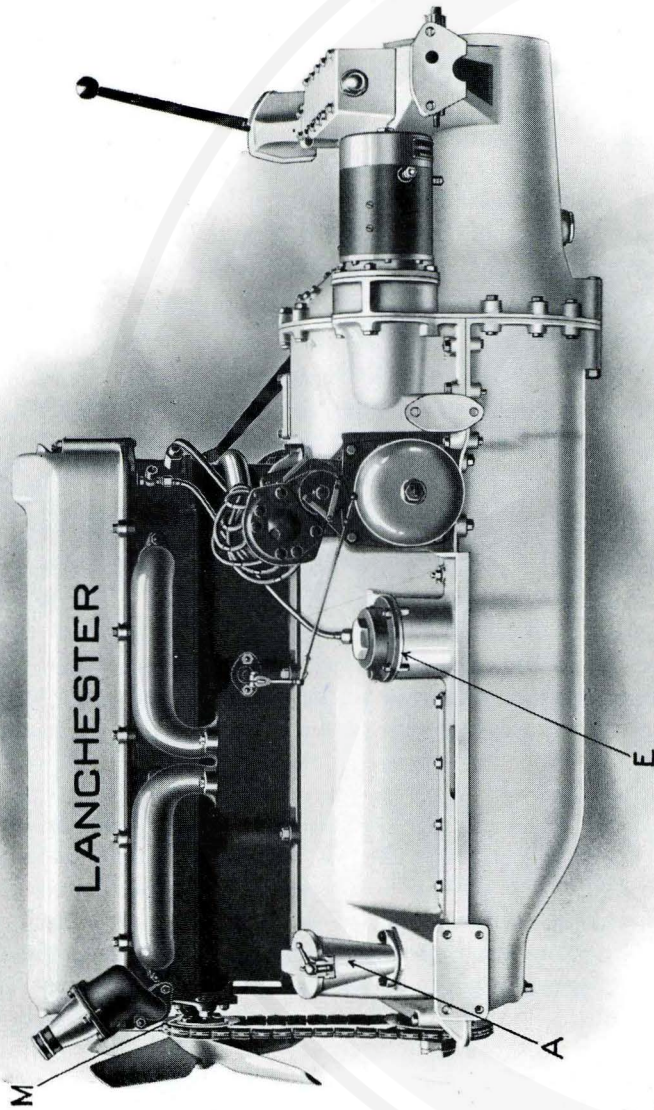

Fig. 21.
*The Engine Oil Sump* holds  $1\frac{3}{4}$  gallons of oil, sufficient to run about 750 miles. The Oil Filler "A" Figs. 21 & 23 is located in an accessible position on the nearside front engine bracket. An Oil Level Cock "B" Fig. 22, is provided on the offside of crankcase, which, when the handle "C" is in its central position is shut off, moved forward it gives the oil overflow level, and backward opens the sump oil drain "D." The engine oil sump should be filled to the level of the overflow cock. In the base of the oil sump is a fine mesh copper gauze strainer, which is on the suction side of the pump, and on the pressure side of the pump is an oil filter "E" Figs 21 & 23 which is so designed as to be removable without loss of oil or the necessity of emptying the oil sump. In event of overfilling, allow the oil level cock to remain open until the oil ceases to flow. In order to keep the driver informed as to the automatic lubrication of the engine, an Oil Pressure Gauge is provided on the instrument board. As long as the oil gauge operates there is no need to refill with oil; the first indication that the engine requires refilling will be that the pressure gauge ceases to act when travelling downhill and recovers when travelling on the level or uphill.
Radiator Fan Hub. M. Fig. 21.